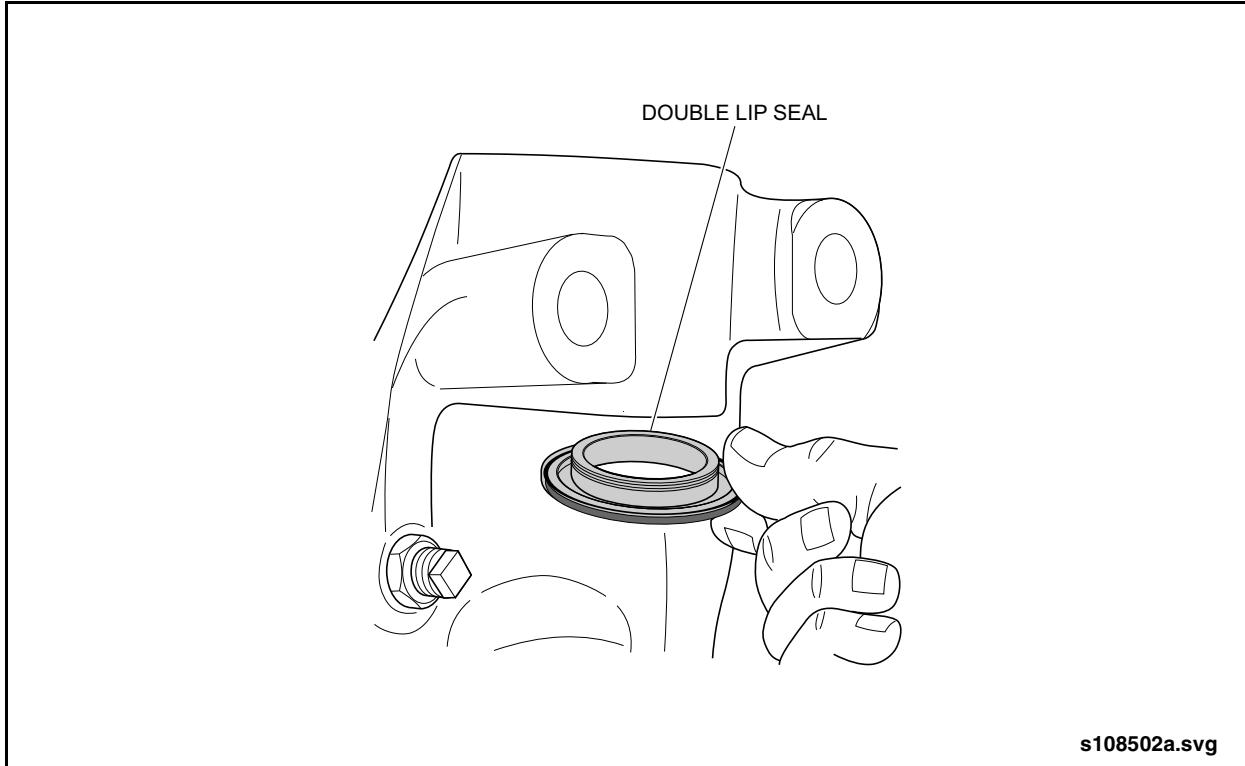

Fig. 1-36: Steering Knuckle Seal Installation
16. Install the double-lip seal into the steering knuckle upper bore. See "Fig. 1-36: Steering Knuckle Seal Installation" on page 31.